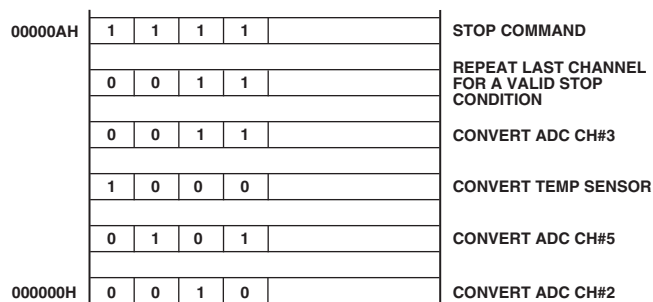

Figure 11. Typical DMA External Memory Preconfiguration
3. The external memory must be preconfigured. This consists of writing the required ADC channel IDs into the top four bits of every second memory location in the external SRAM, starting at the first address specified by the DMA address pointer. As the ADC DMA mode operates independently of the ADuC812 core, it is necessary to provide it with a stop command. This is done by duplicating the last channel ID to be converted, followed by “1111” into the next channel selection field. Figure 11 shows a typical preconfiguration of external memory.